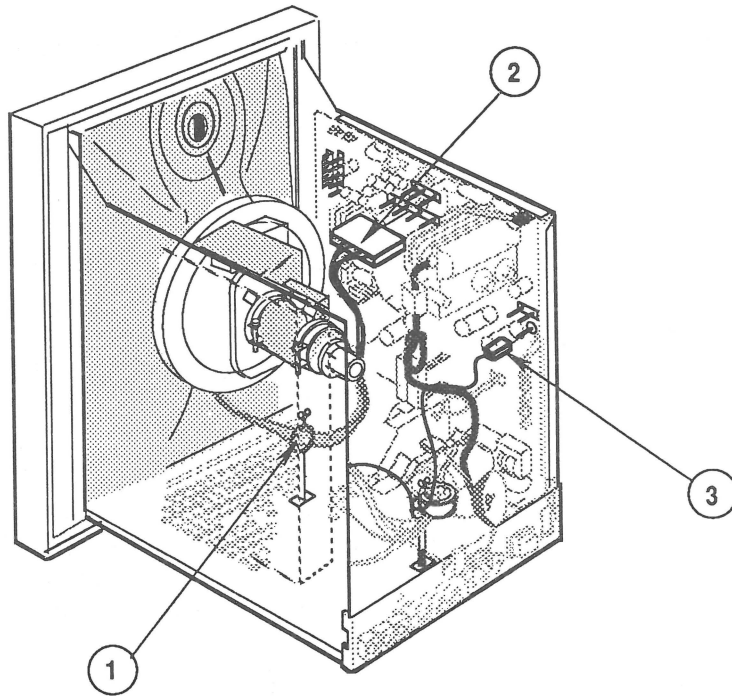

FIGURE 54
5. Replace the **M** cable (from the CRT yoke) in the cable clamp (Figure 54, #1) at the bottom of the chassis.
- Connector **M** (Figure 54, #2)
- Connector **GB** (Figure 54, #3)